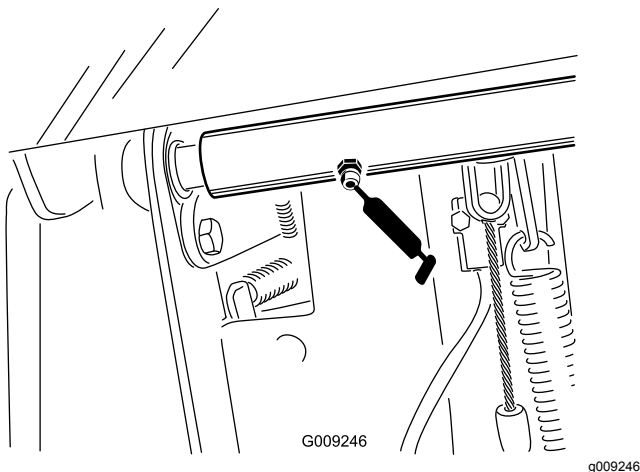

Figure 64
- 2 brake pedal pivot-shaft bearings (Figure 64)